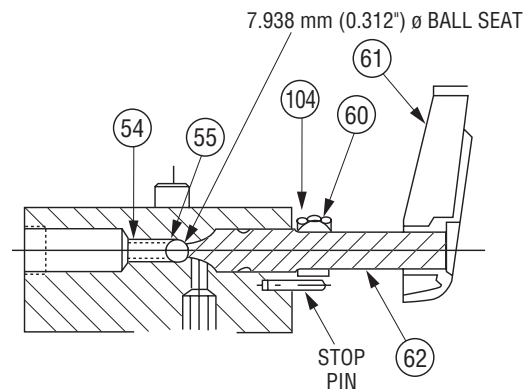

Figure A2 (8)
Manual control valve needs adjustment or repair.	See “Hydraulic Schematic” (8) and refer to Figures A2 and A3 in the “Service” section of this manual.
Check ball does not seat properly.	See “Manual Release/Automatic Release Valve Handle Setting” and Figure A2, and “Ball Seat Refinishing” and Figure B4 in the “Service” section of this manual.
Manual control valve set incorrectly.	See “Hydraulic Schematic” (8) and refer to Figures A2 and A3 in the “Service” section of this manual.
Refer to Figures A2 and A3.